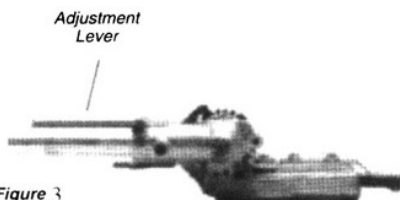

Figure 3
3. While holding the latch lock down, pivot the cutter assembly using the adjustment lever until it is straight with the outer tube (pivot 180°). See Figure 3.